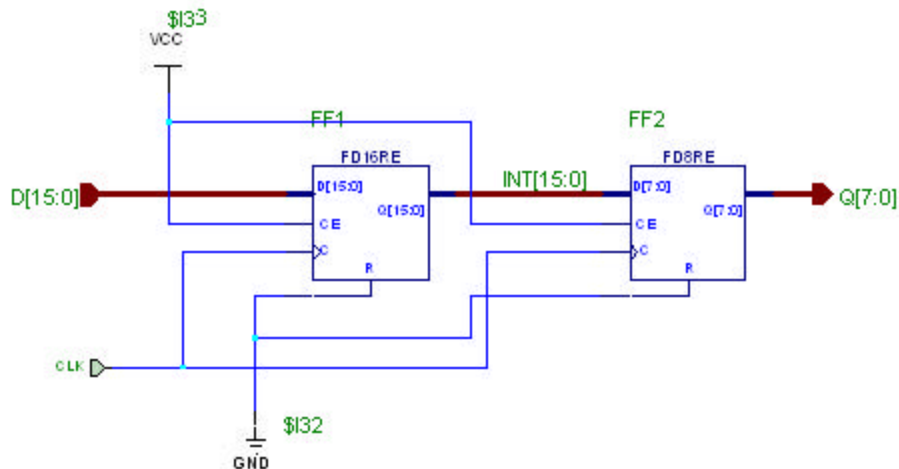

Figure 32
32. Busses are connected to symbol pins in a left-to-right order. For example, in Figure 32, INT[15:8] is connected to FF2\D[7:0]. INT[7:0] is not connected to anything. What a mess! It's best always to have the same number of bits on both sides.